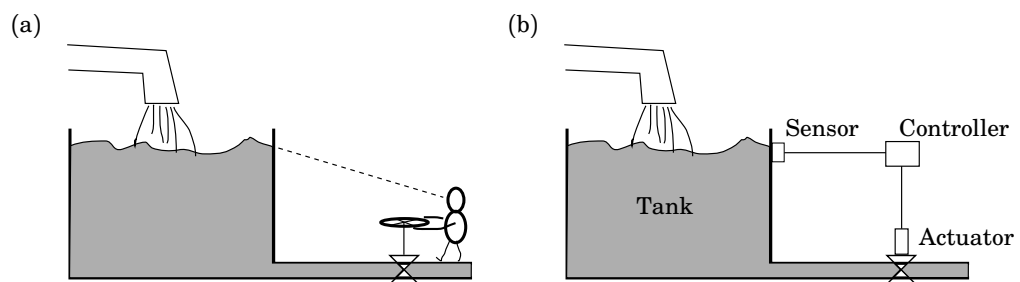

Figure 1.1 (a) Manually controlled water tank. (b) Automatically controlled water tank.
- 1.2 a.** Figure 1.1 (a) shows a water tank with varying inflow. A person is watching the water level and trying to control it by adjusting the outflow valve. Is this a feedback or feedforward system? What would it be if the person instead is looking at the inflow?
- b.** In Figure 1.1 (b), the person has been replaced with a sensor, a controller and an actuator. Draw a block diagram that shows how the four elements are interacting.